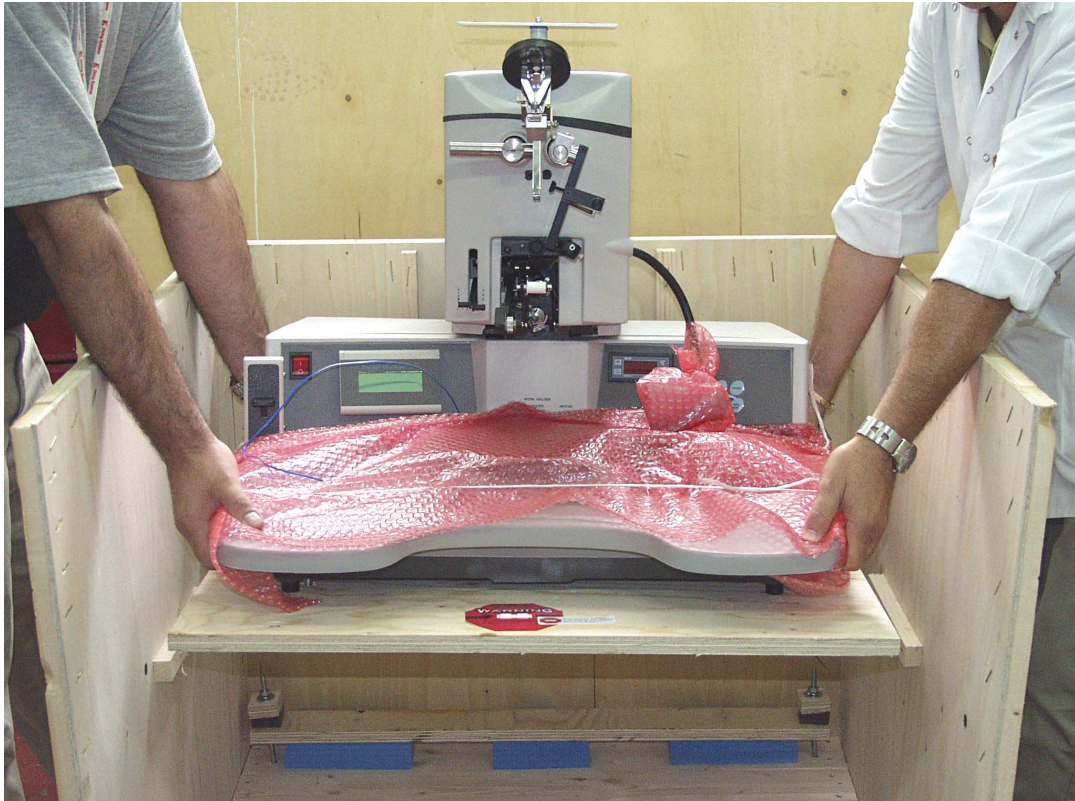

Figure 2-5: Taking the K&S 4500 Wire Bonder Out of the Shipping Crate
- 7 Loosen the four (4) nuts holding the four (4) square blocks that tighten the shipping board to the base of the crate. Turn the square blocks to release the shipping board.
- 8 Lift the bonder with its attached shipping board out of the crate and place it on a cart. This step requires two people (see Figure 2-5).
Caution: Grasp the bonder lower casting. Do not grasp the covers (see Figure 2-5).